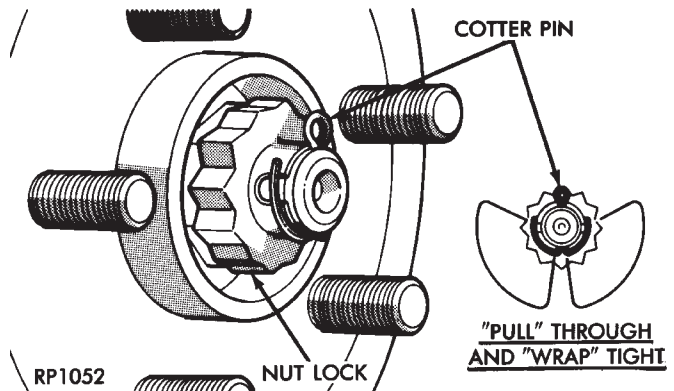

Fig. 24 Spring Washer, Nut Lock and Cotter Pin Installation
(15) Install the spring washer, hub nut lock, and new cotter pin on end of stub axle. Wrap cotter pin prongs tightly around the hub nut lock (Fig. 24).